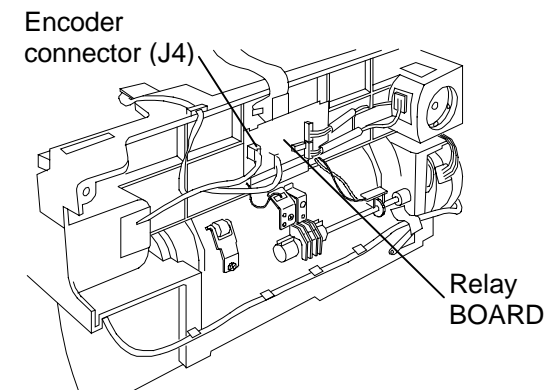

Figure 3.
7. Position the Paper Feed / Carriage Assembly as shown in Figure 3.
8. Disconnect the Encoder connector (J4) from the Relay BOARD (Figure 3).